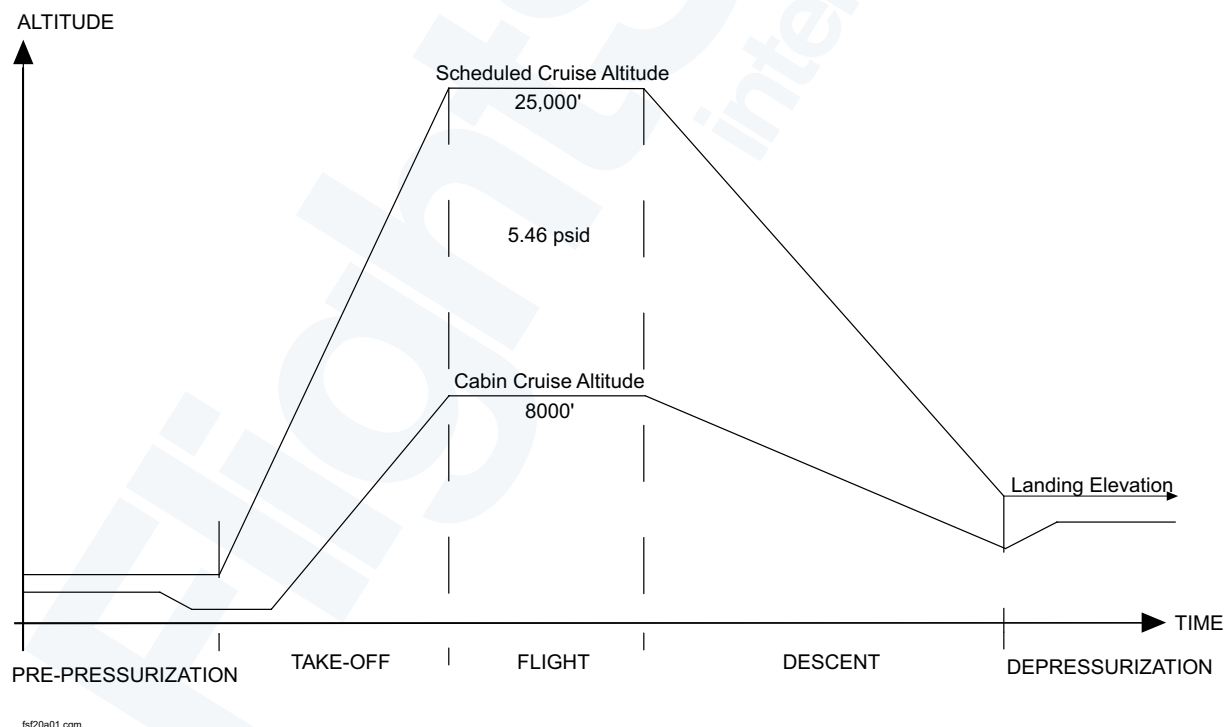

Figure 21-96. Typical Flight Profile
- Figure 21-96. Typical Flight Profile.